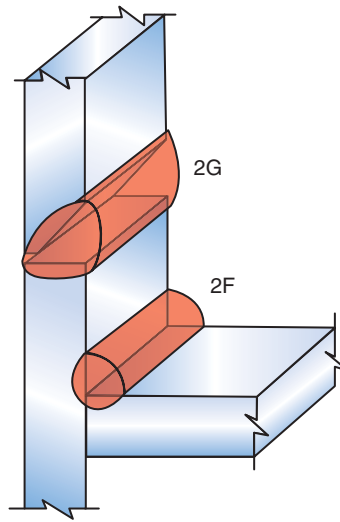

Figure 3.7 Plate horizontal position
- horizontal 2G or 2F—The axis of the weld is approximately horizontal, but the type of weld dictates the complete definition. For a fillet weld, welding is performed on the upper side of an approximately vertical surface. For a groove weld, the face of the weld lies in an approximately vertical plane, Figure 3.7.